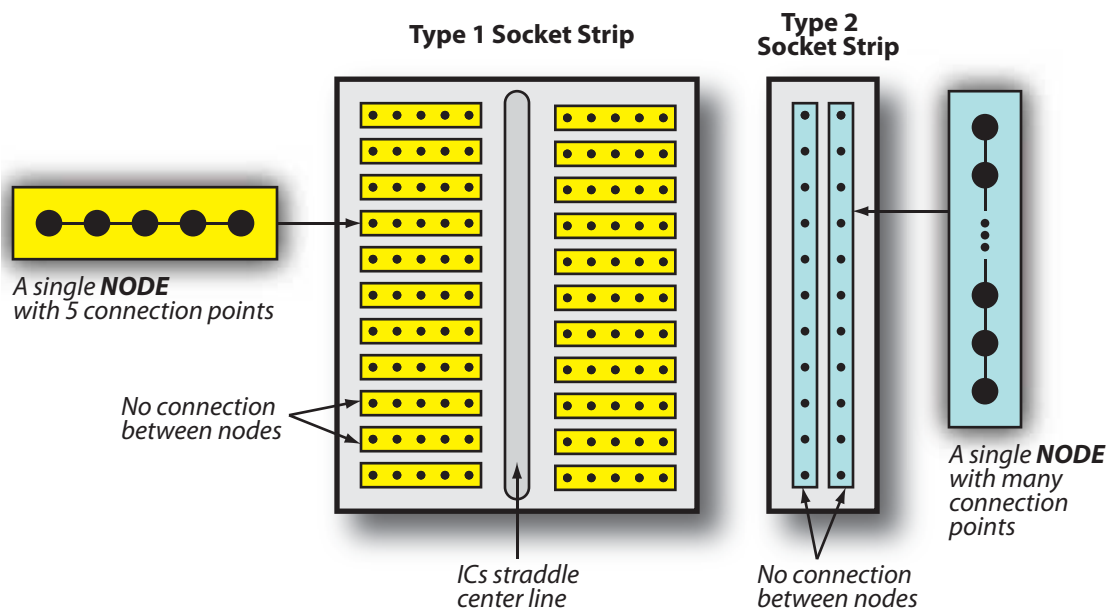

Fig. 7. Socket strips that make up the prototyping area
The prototyping area indicated in Fig. 2 consists of two main types of white “socket strips,” as shown in Fig. 7 and described as follows.
1. Lay out four resistors in series on a Type I socket strip (Fig. 7). For this, you may select separate and conveniently spaced horizontal “nodes” on the socket strip to connect the resistors end-to-end in such a way. (Remember that a circuit element in series with another means that they are connected at a node *with no other circuit element connected to that node.*)
- Next, place a short-circuit (i.e., a wire) *in parallel* with the lower-most resistor in Fig. 7 (i.e., between nodes **Y** and **Z**). Again measure and record the total resistance between nodes **X** and **Z**. Let this value be  $R_B$ .